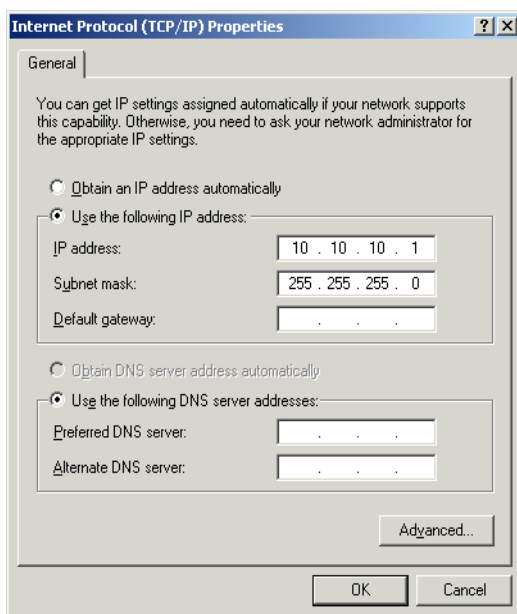

Figure 58 Internet Protocol (TCP/IP) Properties
- 5 In the 'Internet Protocol (TCP/IP) Properties' dialog (see Figure 58) select the option '**Use the following IP address**' and enter your computer's '**IP Address**' and '**Subnet Mask**'.